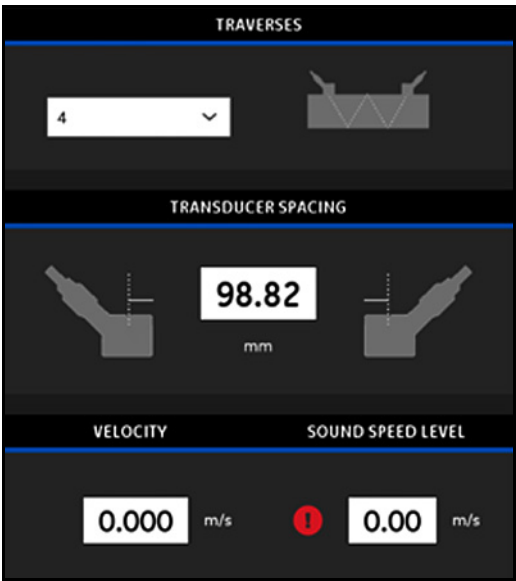

Figure 20: Transducer Spacing Value
The **TRANSDUCER SPACING** screen (see *Figure 20* below) shows the value calculated by the PT900 for the correct distance between the upstream and downstream transducers, based on your programmed data. This value is used when installing your transducer clamping fixture on the pipe.
2. Mount the *Clamp-On Fixture* on the pipe (not provided) in the selected location, and set the *Transducer Spacing* to the value calculated by the APP (see *Figure 20 on page 22*).